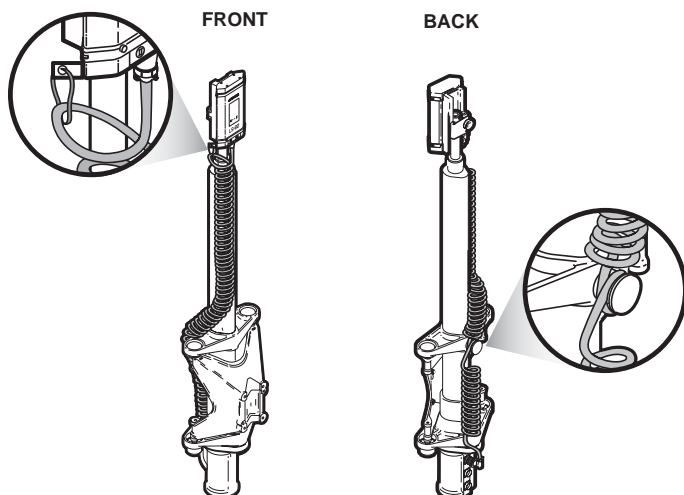

Figure 1-10. Attach Coil Cord to Snap Hook and Wrap it Around Shock Mount
4. Attach the cord to the snap hook, then pull it snug and wrap it around the shock mount (Figure 1-10). This ensures that the force of the moving cord is not on the connectors.